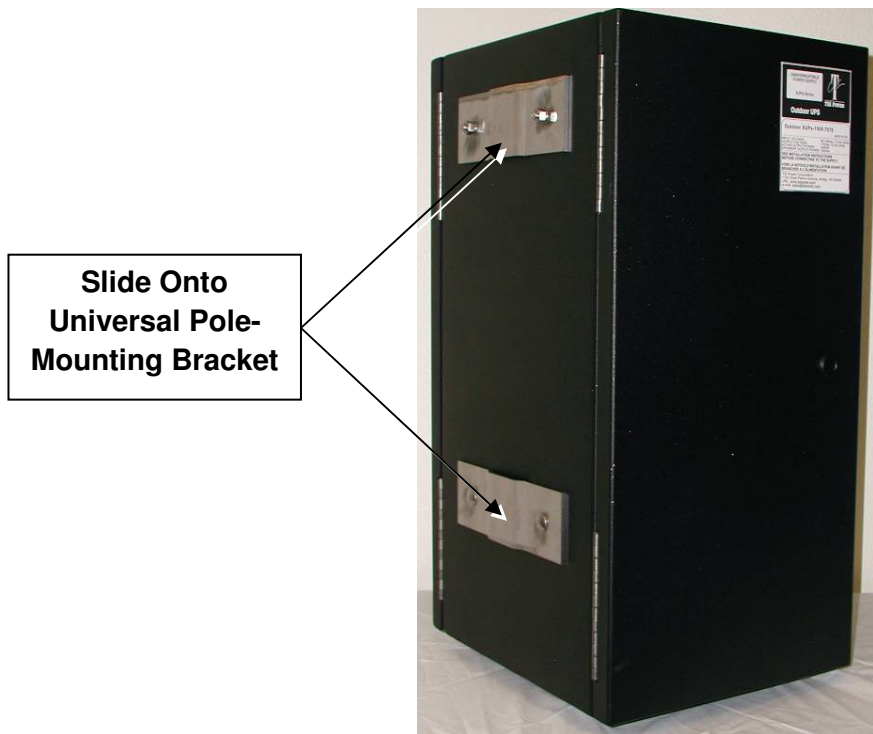

Figure 13: XUPs Rear Mounting Brackets
3.41 After the unit has been unpacked and inspected, lift the unit onto the universal mounting bracket attached to the power pole by sliding the two receptacle brackets on the back of the XUPS into the pole bracket. See Figures 13 & 14.